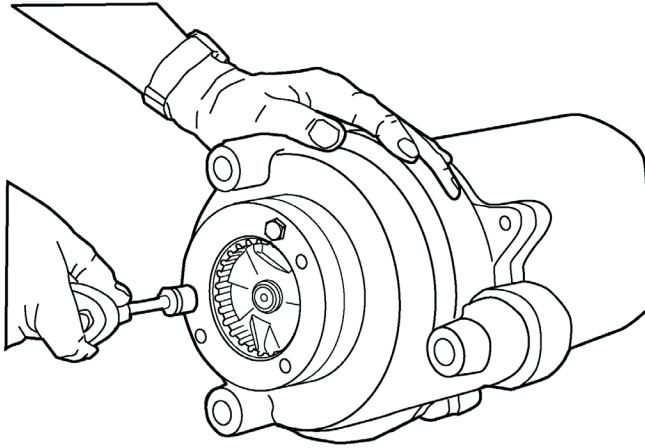

Fig. 1
**DESCRIPTION OF PUMP** — Figure 1 shows cutaway of pump with parts called out. This pump is intended to grind and pump all normal sewage for home use. It will also handle reasonable quantities of disposable diapers, sanitary napkins, paper towels, rubber material, glass, wood, plastic, string, cigarette butts and other material not normally found in sewage.
1. Remove three screws from grinder ring flange. Grinder ring is pressed into flange for easy removal. See Fig. 1